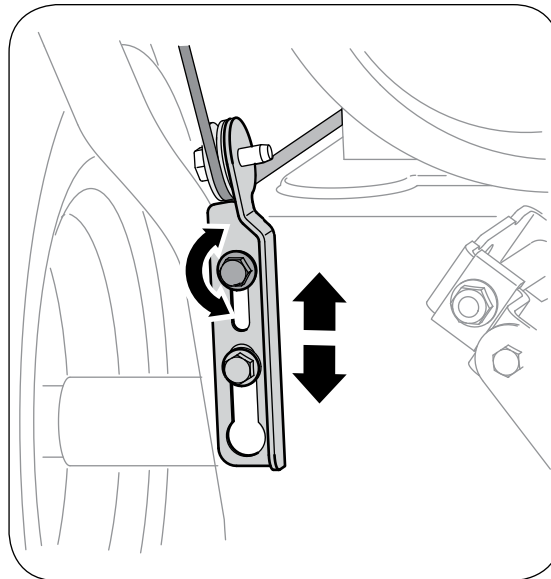

Figure 4-2
4. Allow the auger to remain engaged for approximately ten (10) seconds before releasing the auger control. Repeat this several times.
8. Position the bracket upward to provide more slack (or downward to increase cable tension). See Figure 4-2.